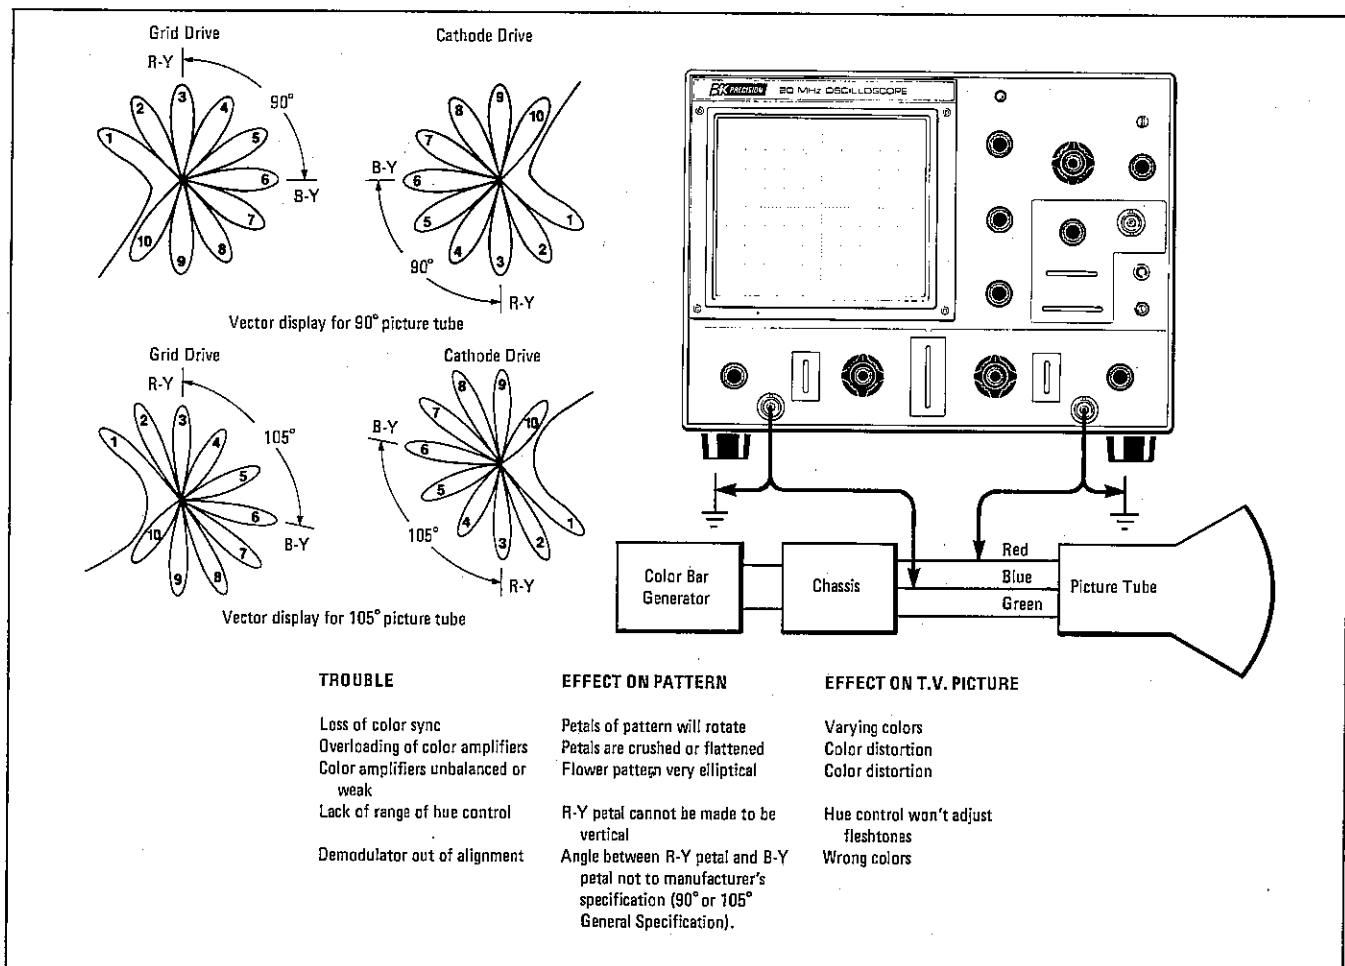

Fig. 21A. Vectorscope operation and patterns.
7. For vector presentation, merely move the horizontal probe to the driven element of the blue gun. The color vector pattern is the same type as given by the television set manufacturer. Fig. 21A shows typical displays obtained for sets using 105° systems and 90° systems with either grid drive or cathode drive.
control changes the position of the petals but not their amplitude. Lastly, 105° sets will have a more elliptical pattern than 90° sets. The table in Fig. 21A lists some common troubles and their effect on the pattern.